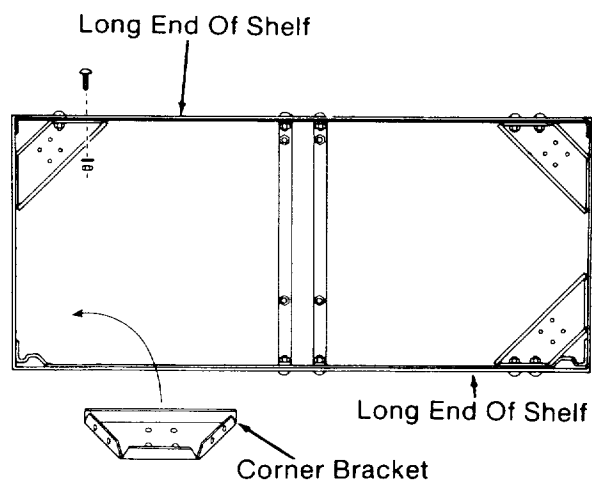

Fig. 15
7. Put a *corner bracket* in each corner of the *shelf*. (Figure 15)
8. Put two truss head bolts through the *shelf* and each *corner bracket* to hold the brackets in place. Only put bolts through holes in the long edges of the *shelf*, not the narrow ends, as shown. (Figure 15)